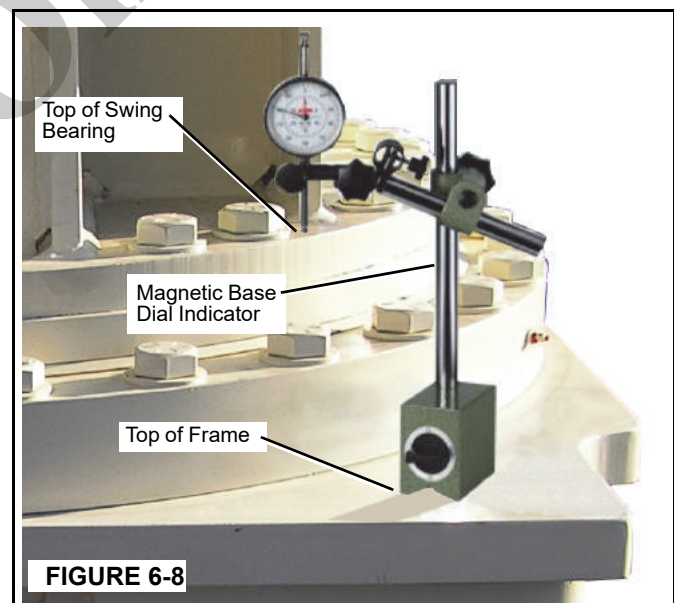

FIGURE 6-8
2. Put a magnetic base dial indicator opposite the boom on the top of the frame (Figure 6-8).
3. Place the dial on the top of the swing bearing (Figure 6-8).